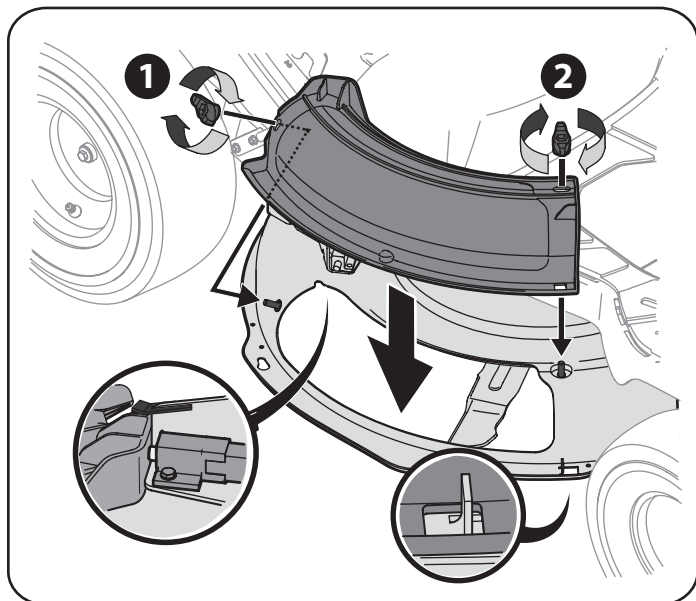

Figure 12
1. Remove the wing knobs installed on the mowing deck and retain for later installation. See Figure 12.
2. Install the mulch plug into the deck discharge opening on the deck. The rear of the mulch plug should be under the tab on the rear deck bracket. The studs on the deck surface will fit through the holes on the upper portion of the mulch plug. The small tab on the deck lip area will fit through the square cutout on the lower portion of the mulch plug. See Figure 12.